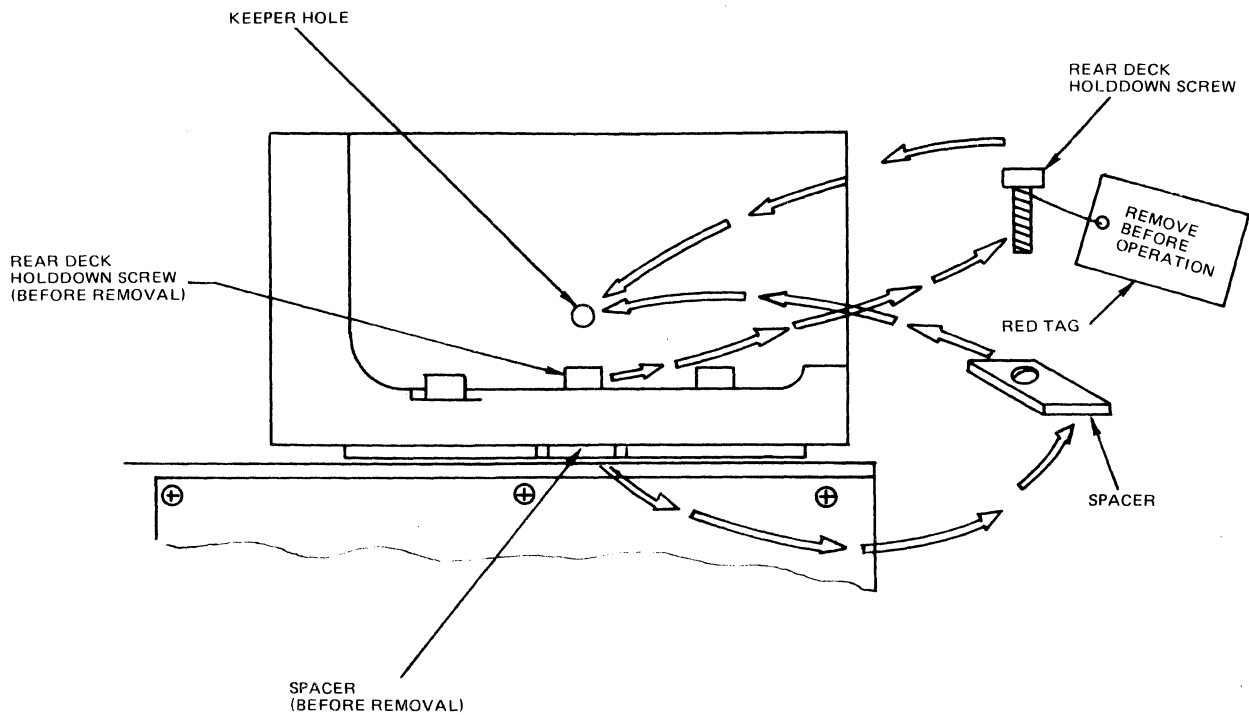

Figure 2-3 Removal of Rear Deck Holddown Screw and Spacer
3. From rear of drawer, locate rear deck holddown screw (i.e., center of three screws at rear deck casting) and associated spacer (red tag attached) (see Figure 2-3). Remove rear deck holddown screw and spacer and store them in threaded keeper hole at rear of deck casting. Discard red tag and string.